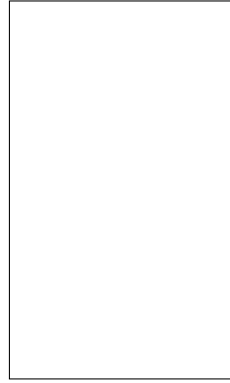

Figure 6: Schematic of the connection between Arduino UNO and the MCP4921.
1. Using Fig. 6 as a reference, connect the Teensy to the MCP4921 DAC. Connect the MCP4921's VDD and VREF pins to the LM317 regulator's output (4 V) and both AVSS and $\overline{\text{LDAC}}$ to ground. A 0.1 μF and a 1 μF capacitor could be used at VREF to minimize noise at the reference. Connect the Teensy with the computer using a USB cable, which is used to program the Teensy and power it up. It is very important to keep your circuit (ICs, resistors, capacitors, wires, etc) organized. Use as short of a wire as possible between two connection points. Refer to Fig. 7 for an example layout.